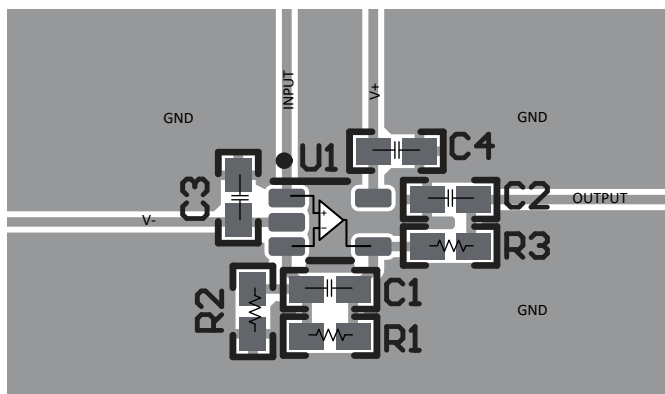

Figure 8-4. Operational Amplifier Board Layout for Noninverting Configuration - SC70 (DCK) Package
- Place the external components as close to the device as possible. As shown in Figure 8-4, keeping RF and RG close to the inverting input minimizes parasitic capacitance.